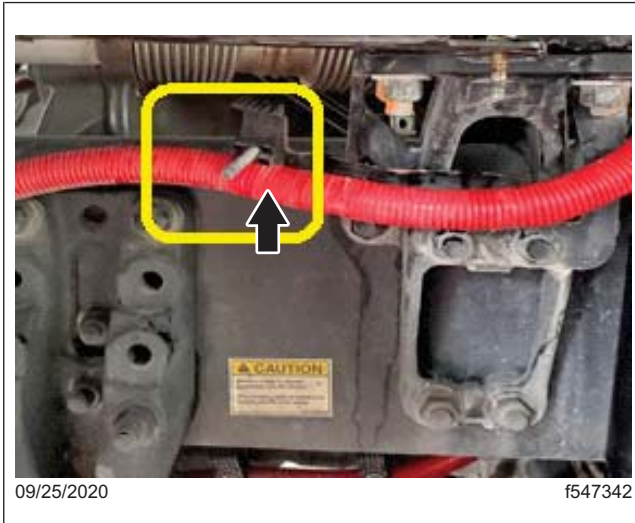
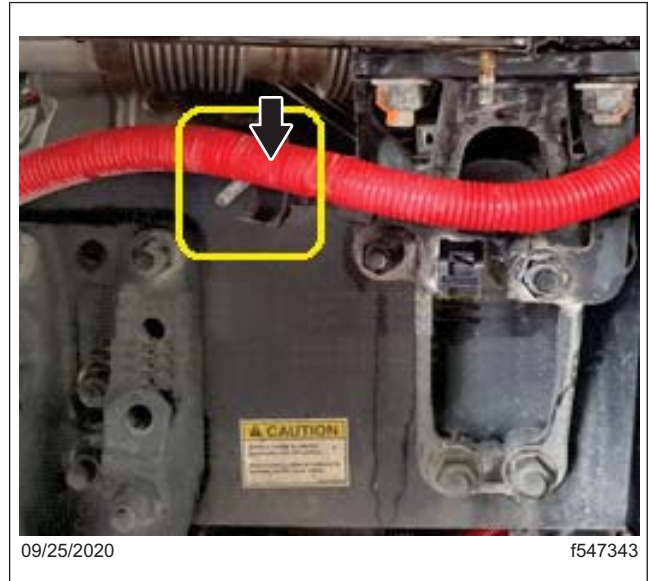

Fig. 2, Battery Cable Below the Stud
Fig. 3, Battery Cable Above the Stud
5. Relocate the battery cable from below the stud to above the stud on the middle cable clamp. See Fig. 2 and Fig. 3.